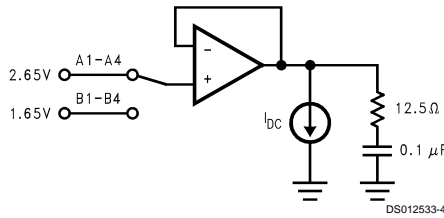
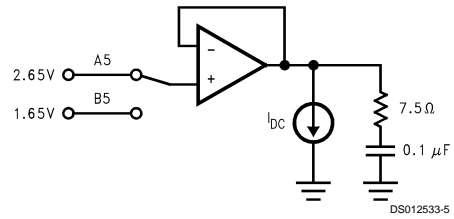
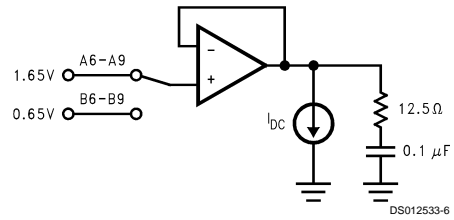

FIGURE 3. A1: 13 mA Source only
FIGURE 4. 13 mA Sink/Source
FIGURE 5. A6-A8: 13 mA Sink/Source
**Note 2:** See test circuits (Figure 3, Figure 4 and Figure 5)